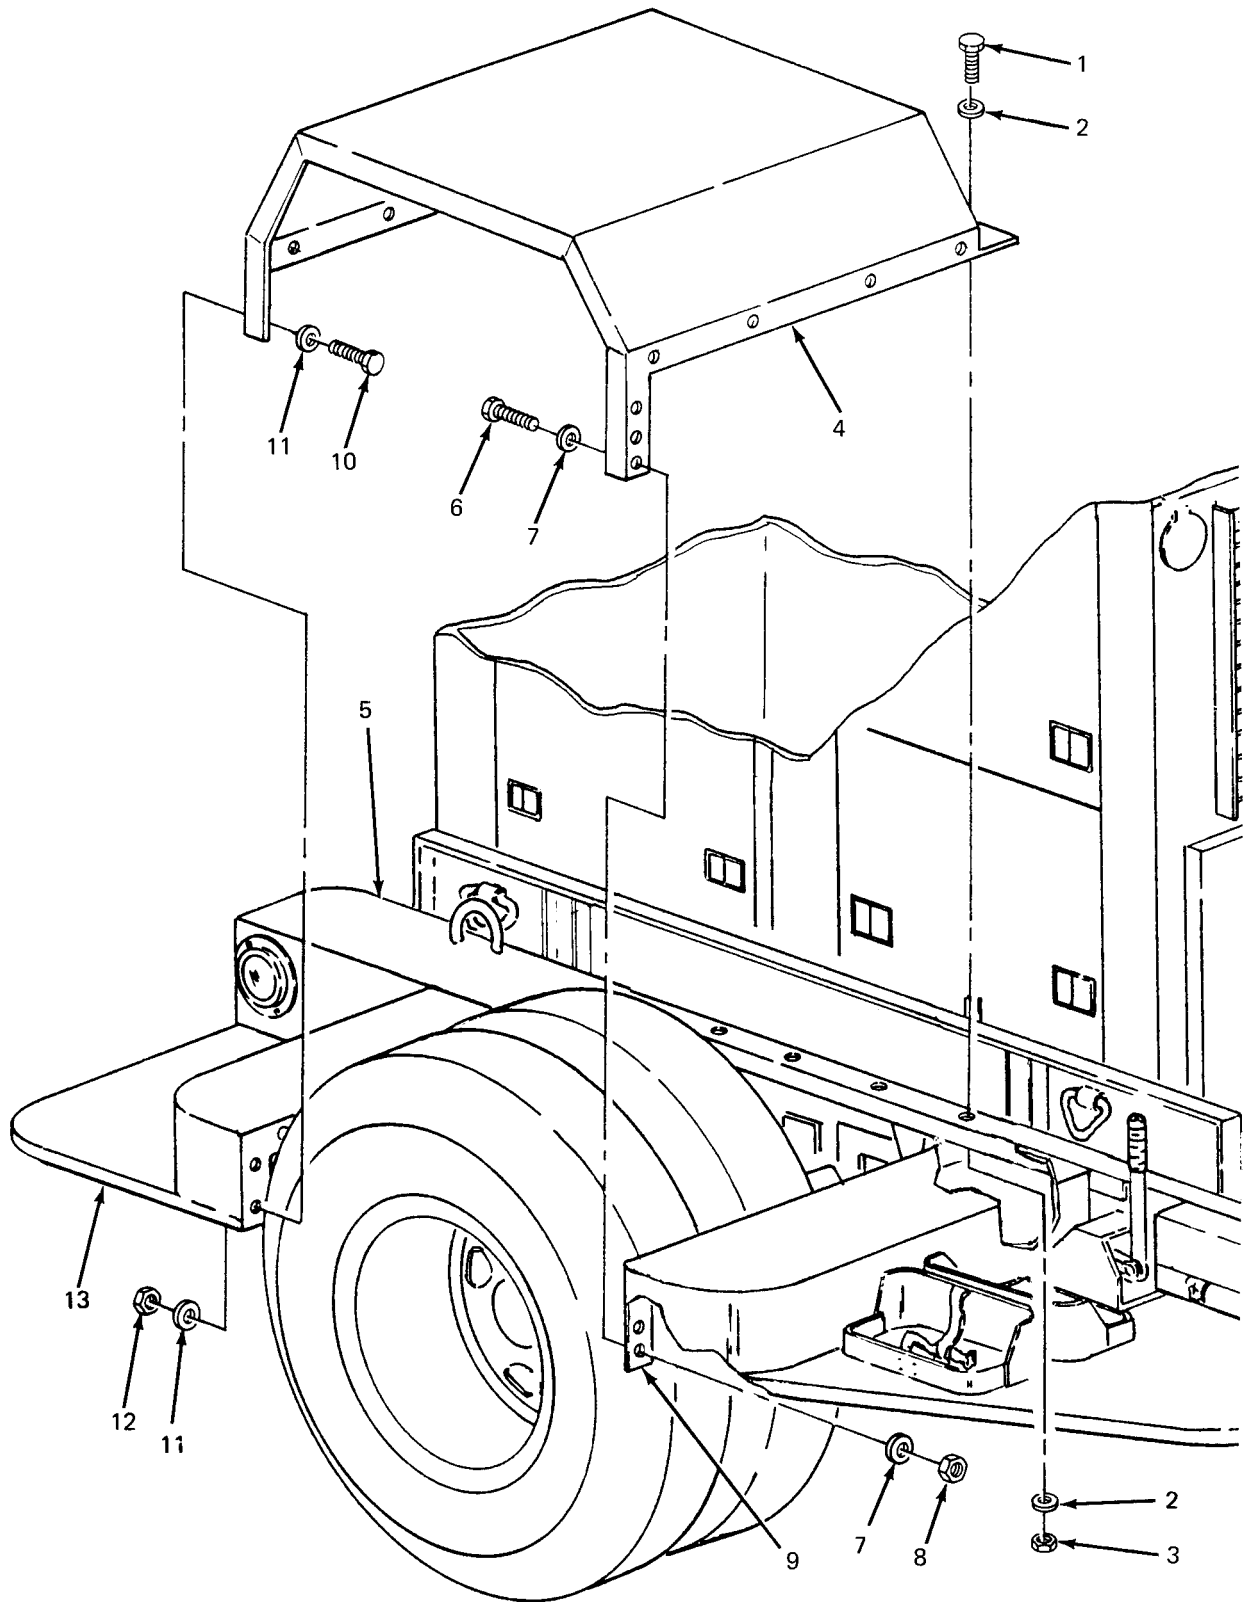

Figure 4-10. Fender Replacement
4-22. Fender Replacement. (See figure 4-10.) The trailer assembly fenders are symmetrical, and replacement procedures are the same for each.
- (1) Remove five screws (1, figure 4-10), ten flat washers (2) and five nuts (3) securing fender (4) to trailer frame (5).